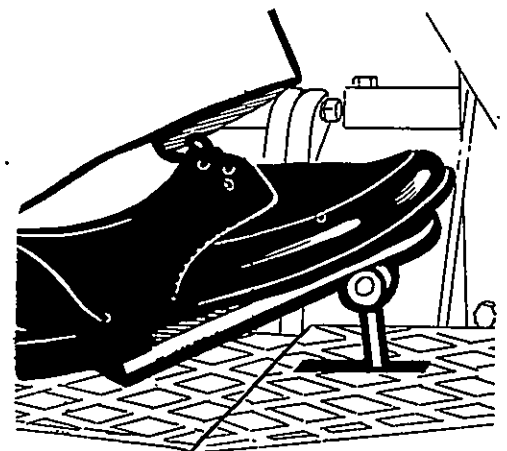

Fig. 3-14 Control of the foot throttle
- 4) Gradually increase the engine speed to ALLOW make the tractor reach the required speed (see Fig. 3-14)
- 1) Decrease the fuel throttle to slow down the tractor. (see Fig. 3-14)